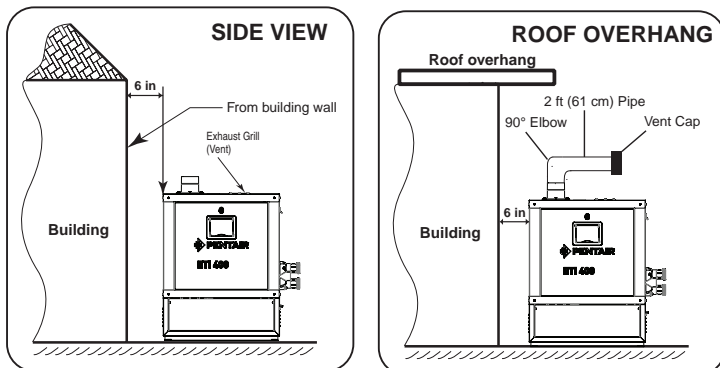

Figure 17.
**⚠️ CAUTION!** In an outdoor installation it is important to ensure water is diverted from overhanging eaves with a proper gutter/drainage system. **CAUTION!** If the heater is installed directly under a roof overhang, install a 90° street elbow onto the vent terminal. Install a 2 ft (61 cm) pipe section onto the elbow. Install the vent cap onto the end of the pipe. Direct the vent cap away from the house or building, See Figure 17 below.
*Note: Check local building codes for installing the heater from any property line set back requirements (see Figure 17 on page 24 for installation illustration).*